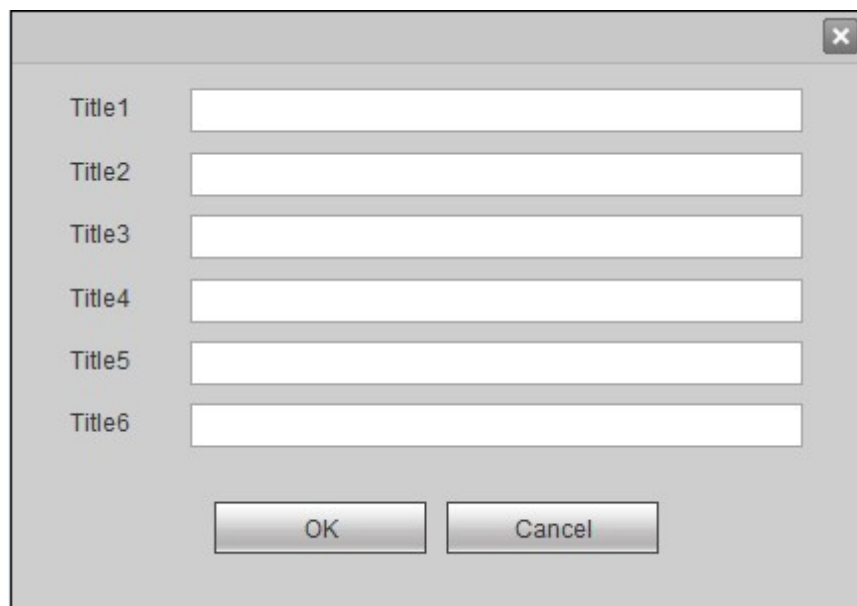

Figure 4-84
Step 2 Click "Edit Title". The system pops up title editing box, and 6 titles can be set at the same time, as shown in Figure 4-84.